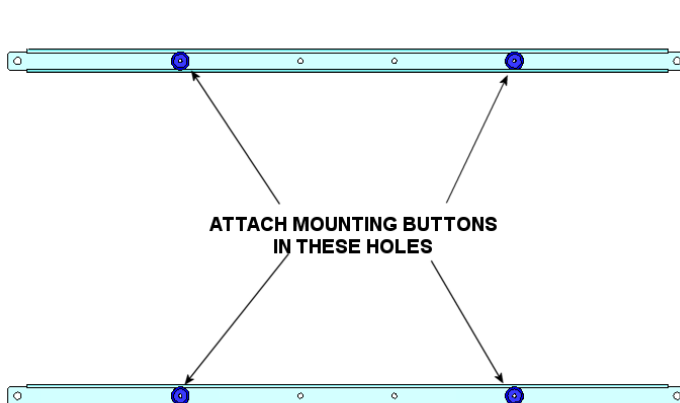
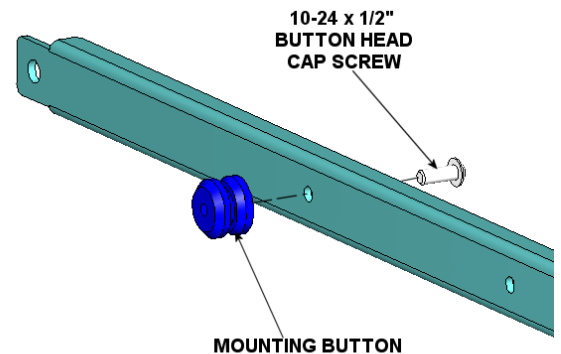

Figure 2
Figure 3
1. Using a 10-24 button head cap screw inserted from back side of center brackets, secure mounting button with chamfered hole of mounting button (larger surface) facing bracket, to bracket (4 places) (See Figure 2 and Figure 3).